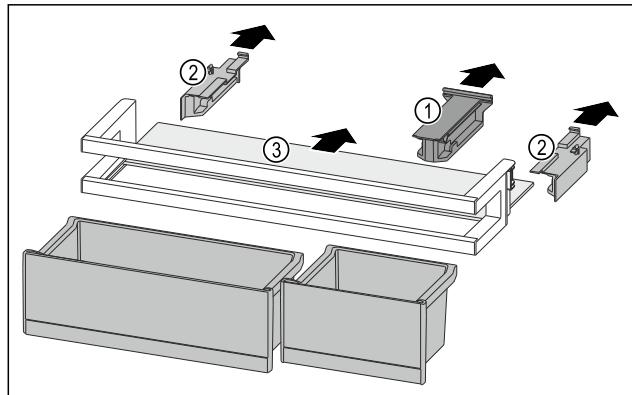

Fig. 116
- ▶ Pull off the holding part Fig. 116 (1).
- ▶ Pull off the side parts Fig. 116 (2).
- ▶ Remove the shelf Fig. 116 (3).